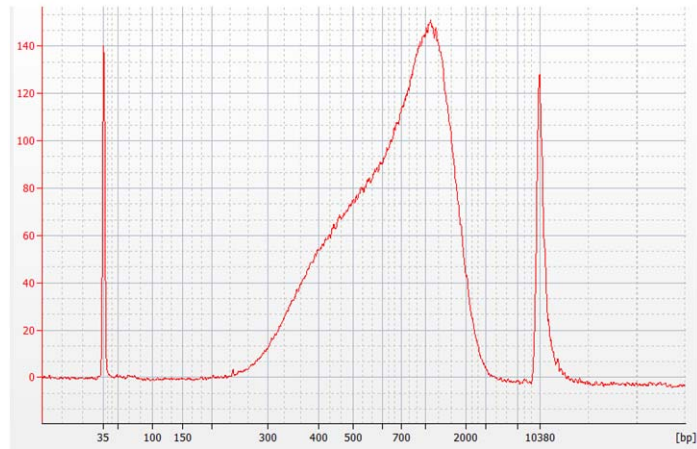

Figure 1 Analysis of amplified library DNA using a High-Sensitivity DNA Assay.
Do not use Agilent's DNA 1000 Assay to analyze the whole genome samples. The expected distribution of whole genome library fragment sizes is not compatible with the DNA 1000 Assay. See Figure 1, below, for a sample electropherogram.
- Typical whole genome library electropherograms show a broad distribution of DNA fragments. A sample electropherogram is shown in Figure 1.